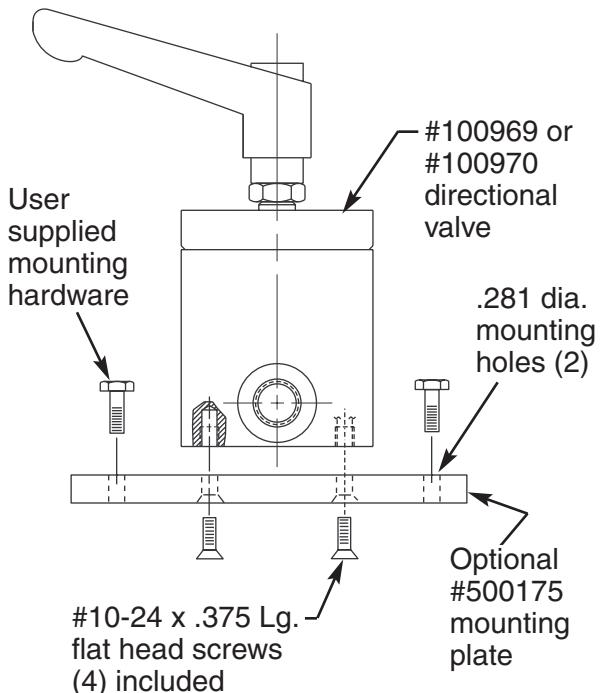

Figure 3
2. If applicable, optional mounting plate #500175 allows the valves to be mounted from the top. See Figure 3.